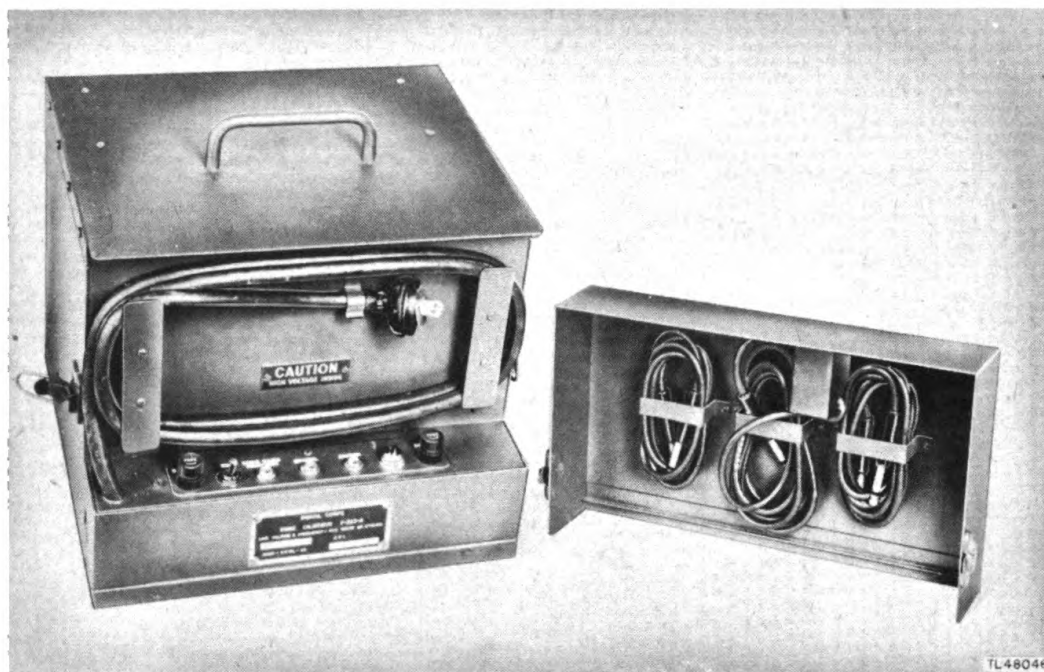

Figure 5. Range Calibrator I-223-A.
7. RANGE CALIBRATOR I-223-A (fig. 5).